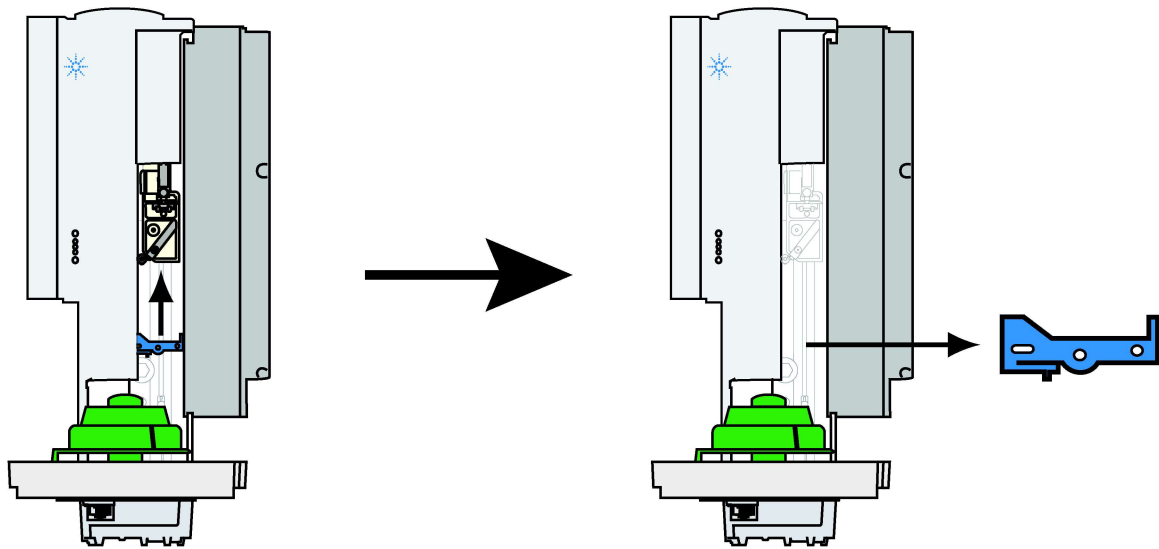

Figure 7 Remove the blue shipping clamp
- 3 Carefully remove the blue shipping clamp from the syringe carriage (Figure 7).